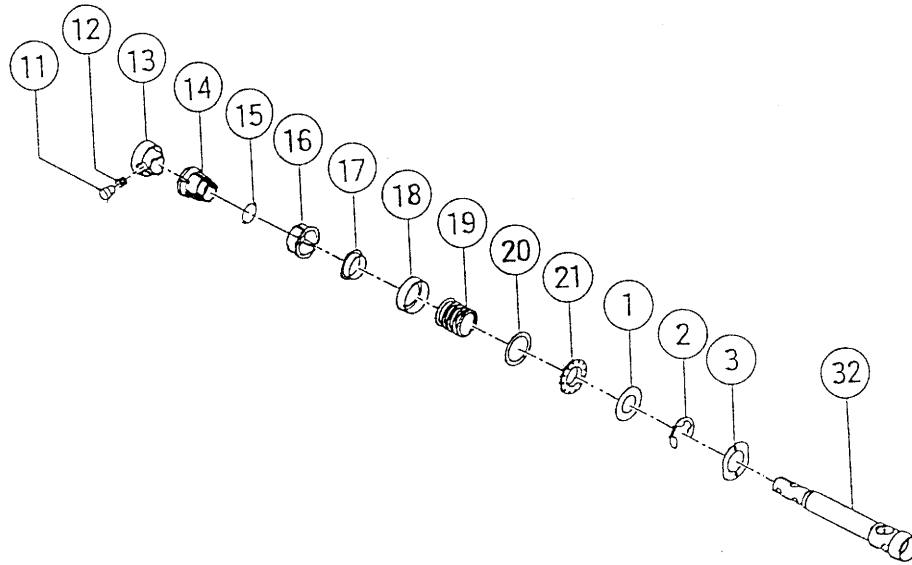

Fig. 5
(3) Disassembly of the blade mounting section (Fig. 5)